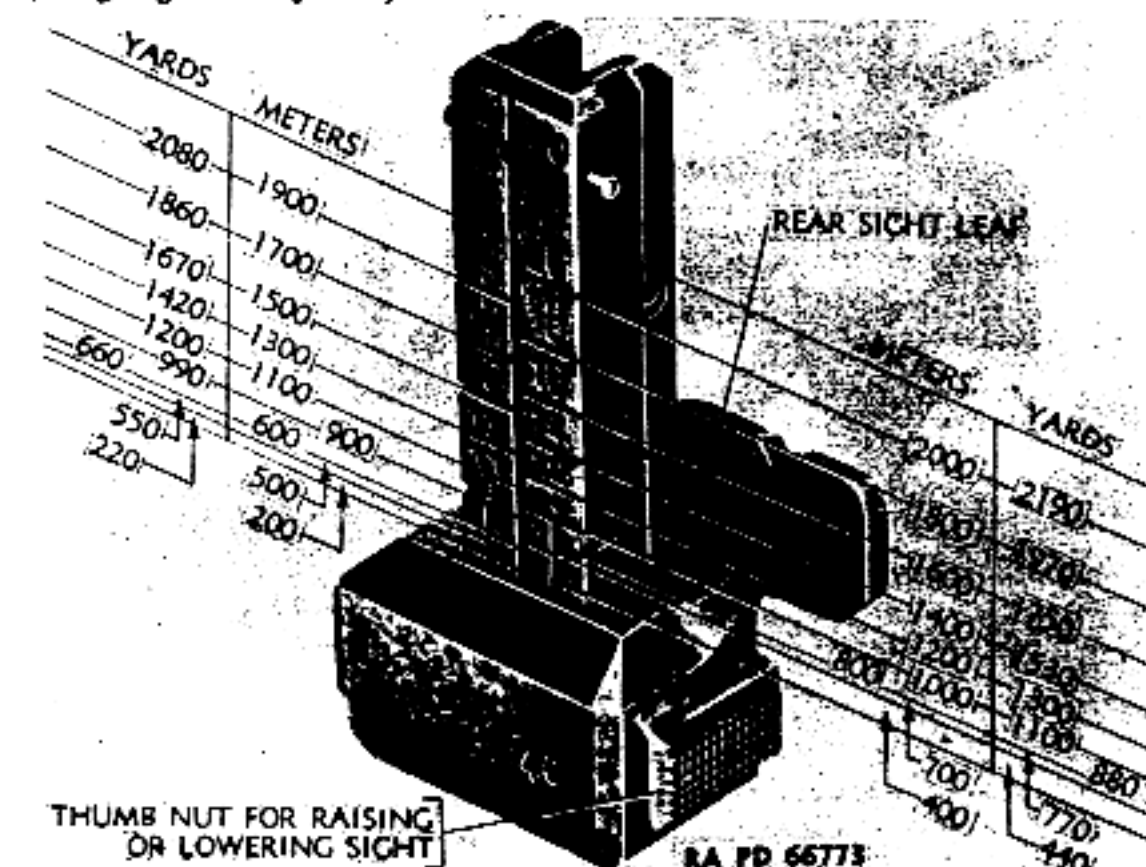

Figure 35 - Rear Sight - Meters and Yards
(1) The divisions on the rear sight in meters and yards are shown in figure 35.